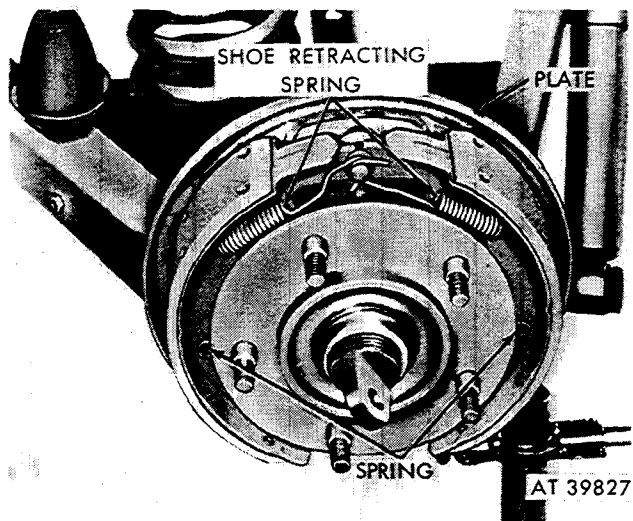

Figure 2-370. Remove brake shoe holddown and retracting springs.
(3) Insert suitable tool in conical brakeshoe holddown spring. Push spring toward backing plate and force to one side until free of holddown anchor (fig. 2-370).
(4) Unhook and remove shoe retracting springs from anchor pin and brakeshoes (fig. 2-370).